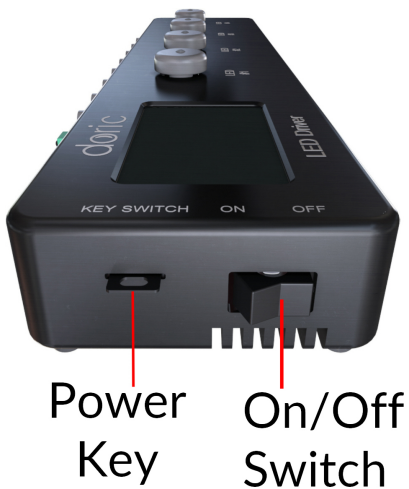

Figure 2.5: Side view of a 4-channel LED Driver
- The **On/Off switch** (Fig. 2.5) turns on/off the driver.